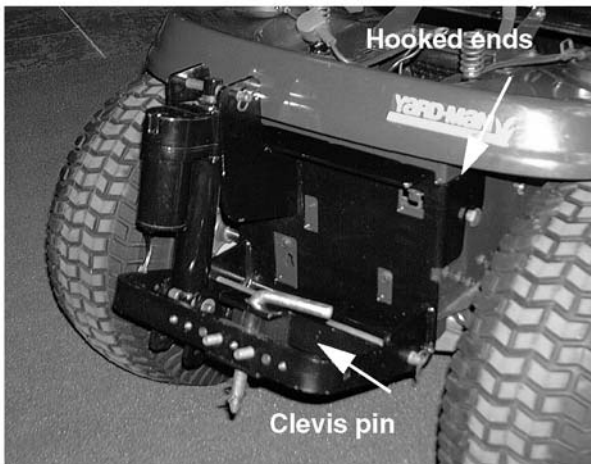

Figure 8-45.
11. Position the hooked ends of the sleeve hitch assembly to the outside of the hitch plate and over the shoulder bolts. See Figure 8-45.